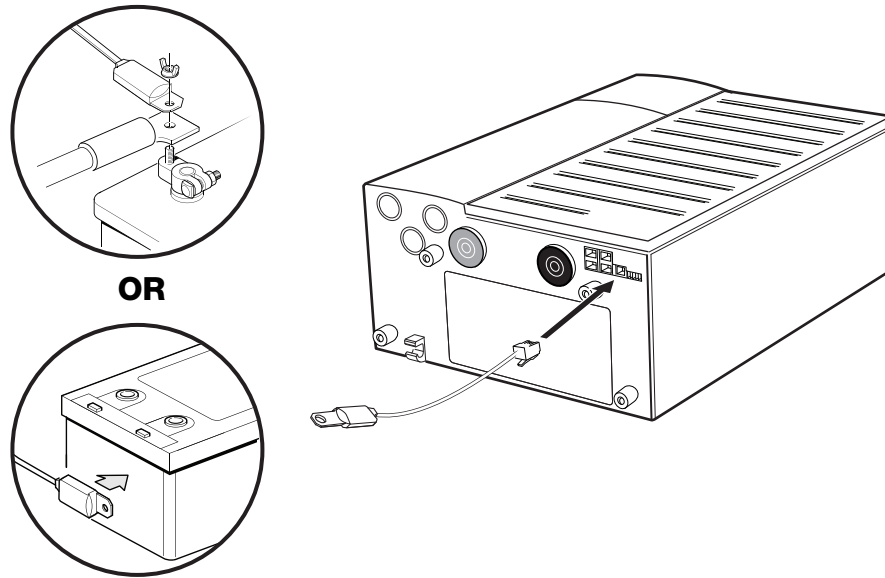

Figure 3-6 Battery Temperature Sensor Installation
2. Route the BTS cable to the battery enclosure, and then connect the BTS using one of the following methods (as shown in Figure 3-6 on page 3–13):